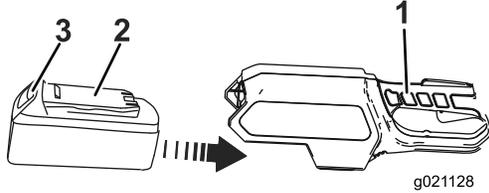

Figure 4
- Align the tongue of the battery pack with the cavity in the handle housing (Figure 4).
- Grasp the trigger handle (Figure 4).